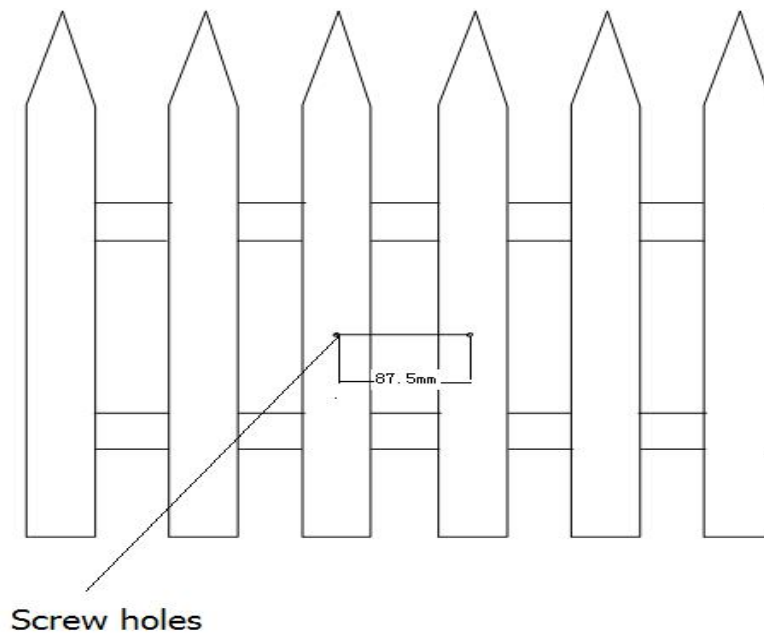

Fig 2
1. Choose fence or posts, drills 2 holes on fence or posts, try to make them as parallel as possible, make the auto waterer even right and left after installed, the distance between the two holes is about 8.7 cm . Fig 2